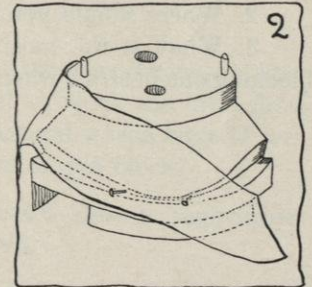

FIG. 2.
- a. Pin one end of the larger edge of the felt or of the straw at the edge of the block, extending it where and as much as desired (see Figure 2). If you are certain that the mark will not show, use a tack because it holds the felt or straw firmer.